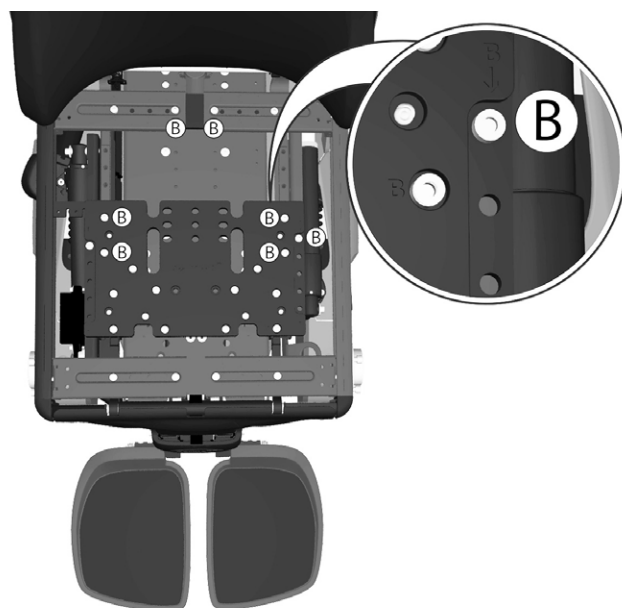

Figure 245. The position of the rear section of the Seat frame (Back rest Position) is fixed by five screws marked with the letter B.
7. **Adjustment of the rear section of the Seat frame (Back rest position):** Remove the seven screws marked (B) securing the Seat frames rear section, see fig. 245.